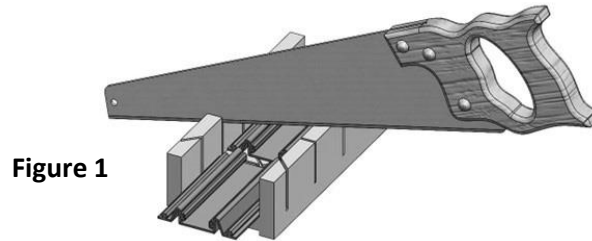

Figure 1
1. Position aluminum extrusion in the expansion joint and mark hole locations at 18” OC. Drill Ø3/16” holes into the extrusions at the marked locations. When attaching to a concrete wall, drill a hole into the concrete at these locations with a Ø5/32” masonry bit. Repeat on the other side. **See Figure 1.**
1. Position one of the frames onto the wall of the expansion joint and mark hole locations at 18” OC. (Reference shop drawings for more details) Drill  $\text{Ø}3/16$ ” holes into the extrusions at the marked locations. When attaching to a concrete wall, drill a hole into the concrete at these locations with a  $\text{Ø}5/32$ ” masonry bit. **See Figure 1**
1. After determining the angle needed, use a miter box and a non-serrated saw (teeth removed) to cut ends of seal clean, straight and square. **See Figure 1**